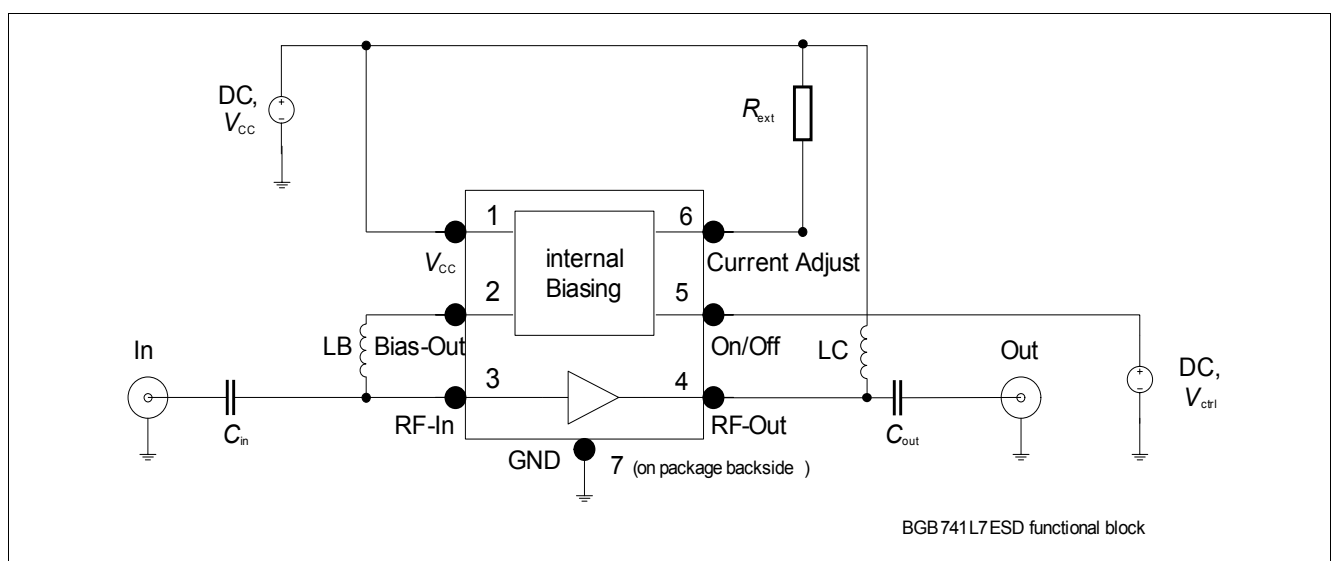

Figure 2 Functional block diagram
3) Measured on an application board according to figure 2) presenting roughly a 50 Ω system to the device. I_{Cq} is the quiescent current, that is at small RF input power level. I_C increases as RF input power level approaches P1dB.
3) Measured on an application board according to figure 2) presenting roughly a $50\ \Omega$ system to the device. I_{Cq} is the quiescent current, that is at small RF input power level. I_C increases as RF input power level approaches P1dB.